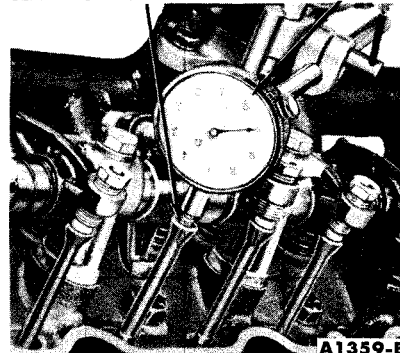

FIG. 19—Camshaft Lobe Lift
2. Make sure the push rod is in the tappet socket, then install a dial indicator in such a manner as to have the actuating point of the indicator in the push rod socket and in the same plane as the push rod movement (Fig. 19).